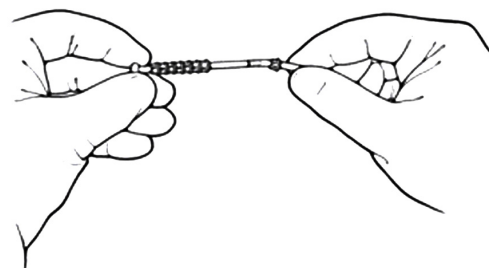

Figure 4-31. Slide on Collet
2. Slide collet ring onto tubing, making sure collet ring teeth face toward tubing end. **(Figure 4-31)**